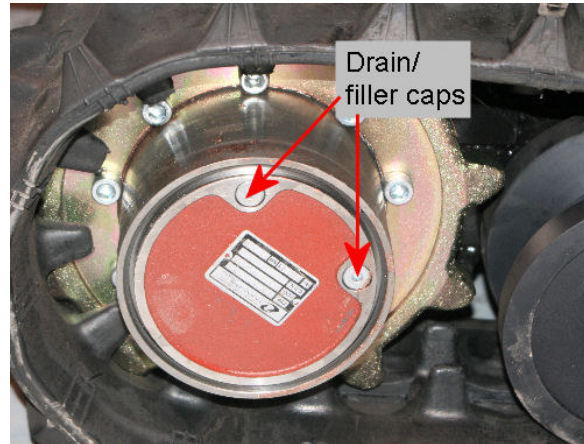

Fig 3-21 Track motor drain caps
4. Reposition the motor so that one of the drain/filler caps is at 3 or 9 o'clock (Fig 3-21).